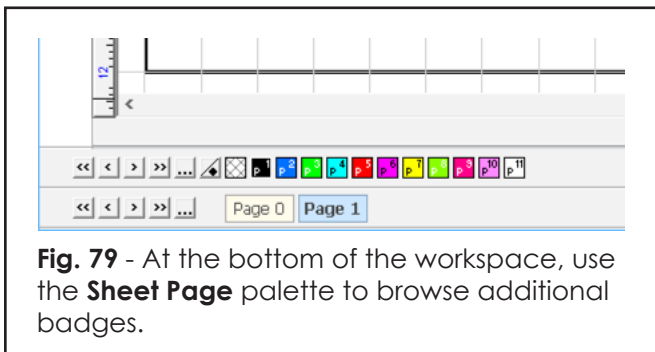

Fig. 79 - At the bottom of the workspace, use the **Sheet Page** palette to browse additional badges.
21. To view the remaining pages of badges, use the **Sheet Page** palette at the bottom of the workspace (Fig. 79).